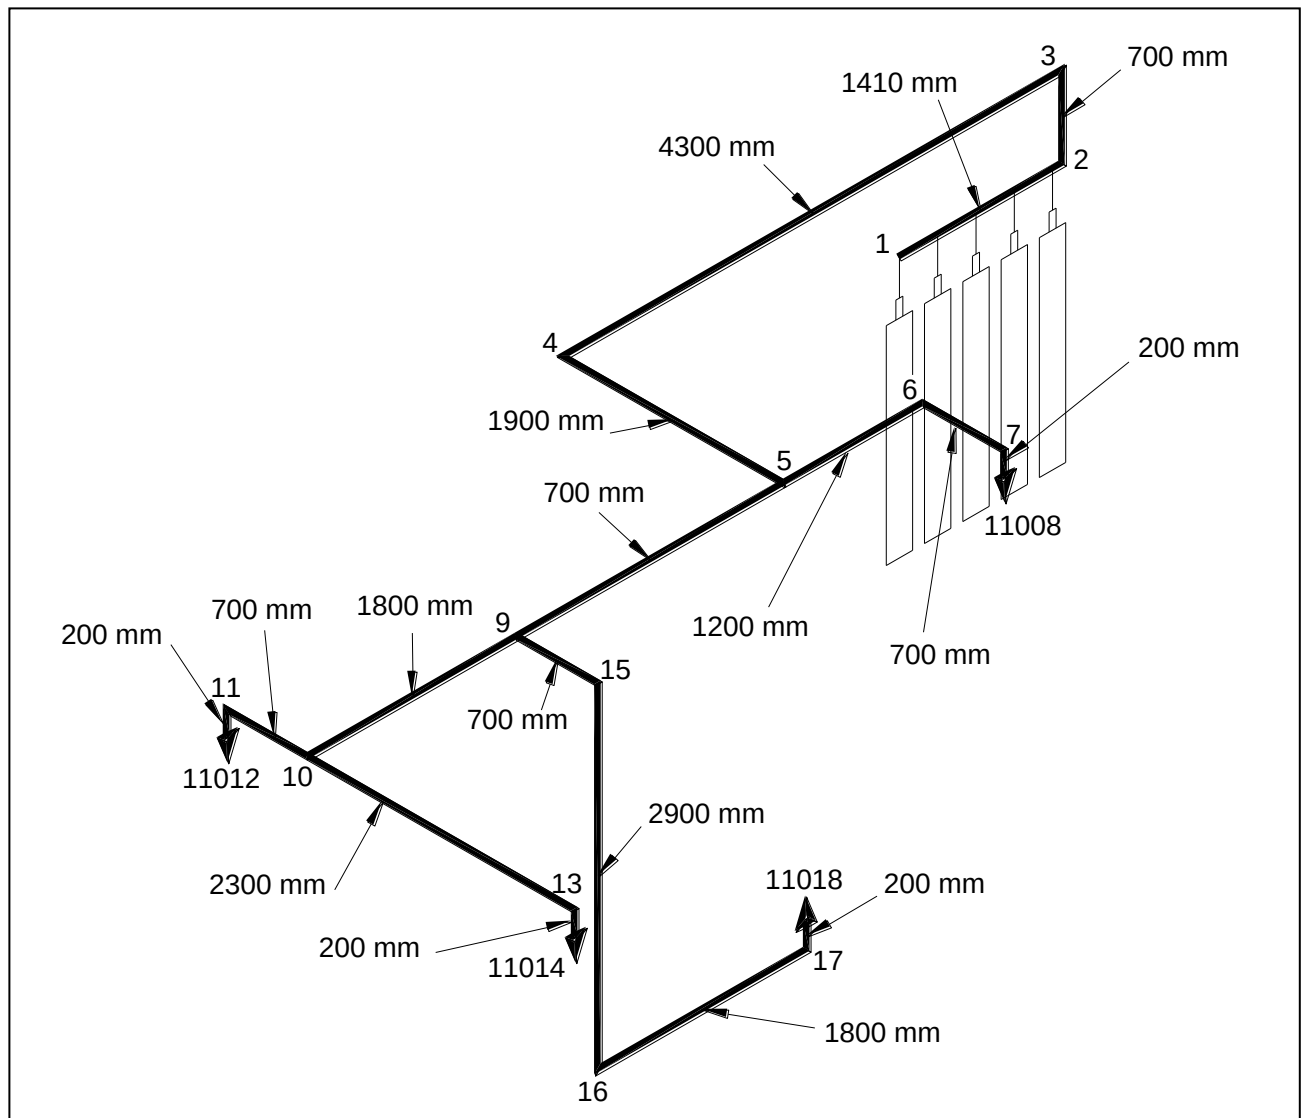

Figure 3.4
Step 2: Layout a piping isometric to show all elevation changes, fittings and lengths. (Refer to Figure 3.4) The sections of pipe should be numbered 1-2, 2-3, 3-4, etc. A new section of pipe begins whenever there is a tee split or pipe size change. All elevation changes must be accounted for by assigning a number, or node point, at the bottom and top of the pipe section. Correct numbering of pipe sections is essential for proper data entry into Fike's Prolnert Engineered Flow Calculation Program. Pipe sizes will be based on the flow rate for each section and selected from Table on page 14.